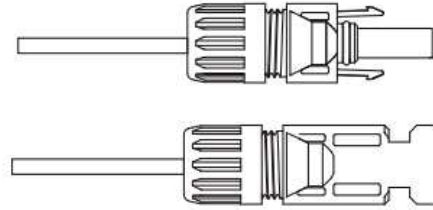

Figure 2.10 Stylus inserted into the top of the connector
3. Insert the stylus into the top of the connector and screw the cover nut to the top of the connector. figure 2.10 .